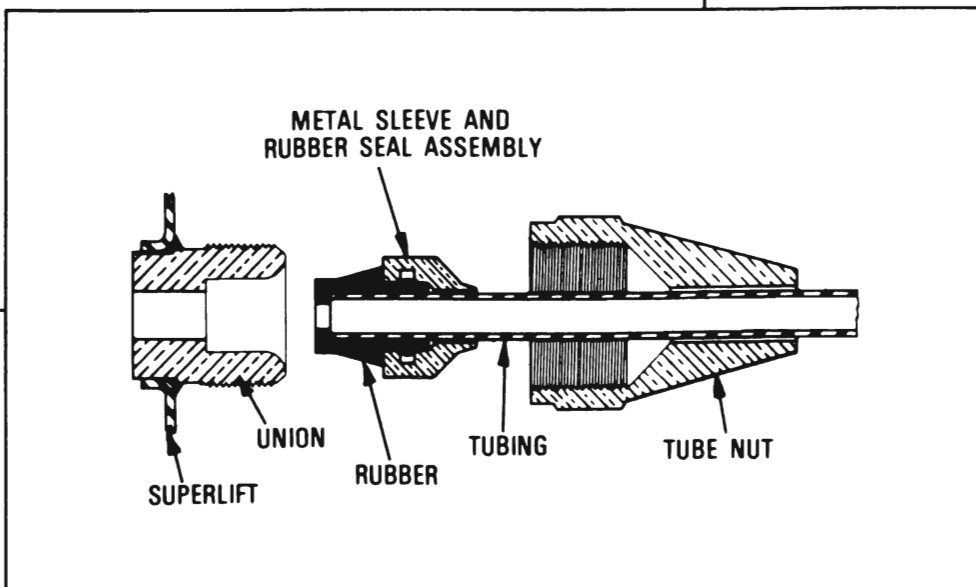

FIGURE 6—CHECKING FITTINGS
- A. Check for loose or improperly assembled fittings at shocks and/or height control valve. Figure 6.